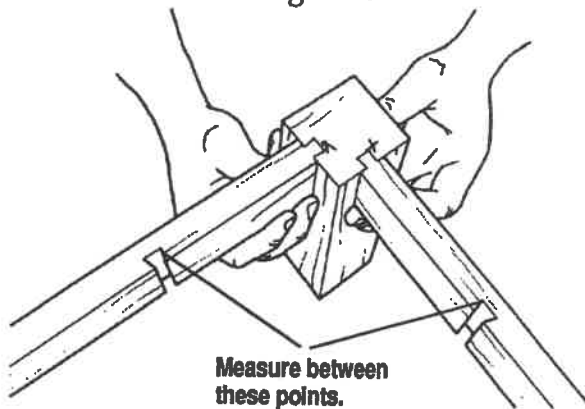

Fig. E-17
28. Measure the distance between the inside bottom of each socket, as illustrated in Fig. E-17.